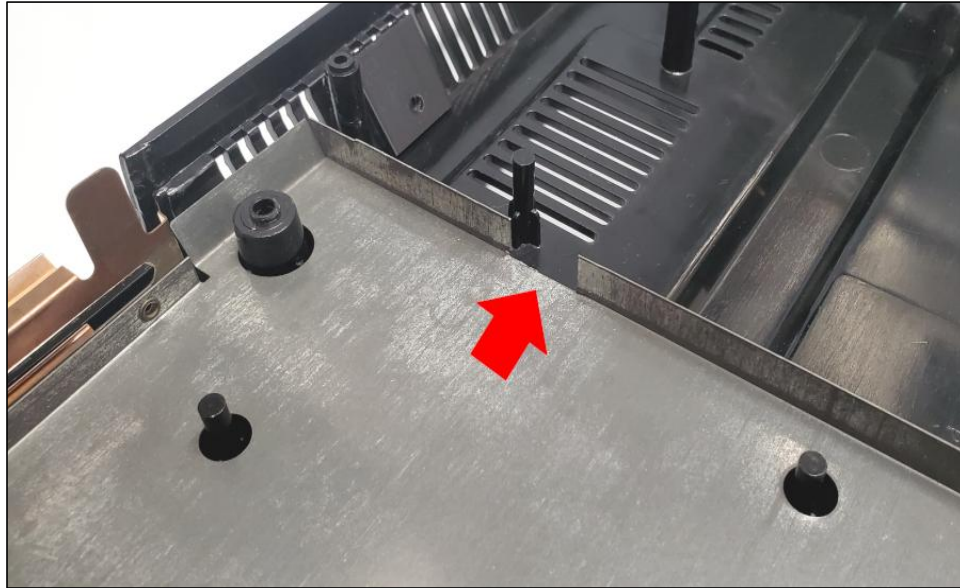

Figure 12: Add notch to lower shield
Step 10: The lower shield requires adding a notch with tin snips to the lower RF shield to make room for the new Pause Mod controller wiring. See **Figure 12**.